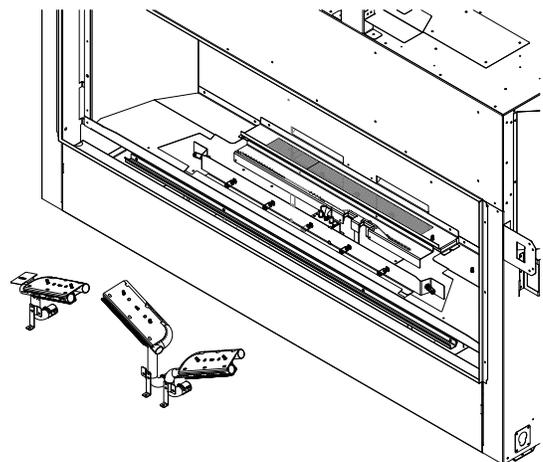

Figure 8.10 - Step 3
3. Remove front light kit via (2) screws. Remove left, center, and right burner assemblies. They are each held in by (2) screws. (1) screw secures it to the bottom burner and (1) screw secures it to the floor of the control board. Figure 8.10.